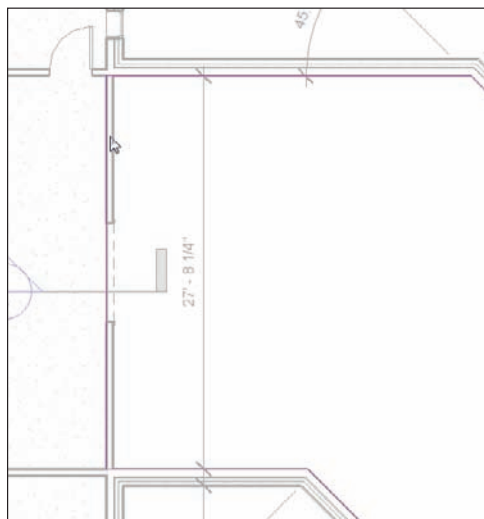

FIGURE 6.15 Adding the slab edge to the left side of the west corridor wall
10. Pick the west wall of the corridor. This time you want to be sure that the magenta line is to the left of the wall. This will ensure that the two slabs meet. If not, you may need to use that flip arrow we were talking about earlier (see Figure 6.15).